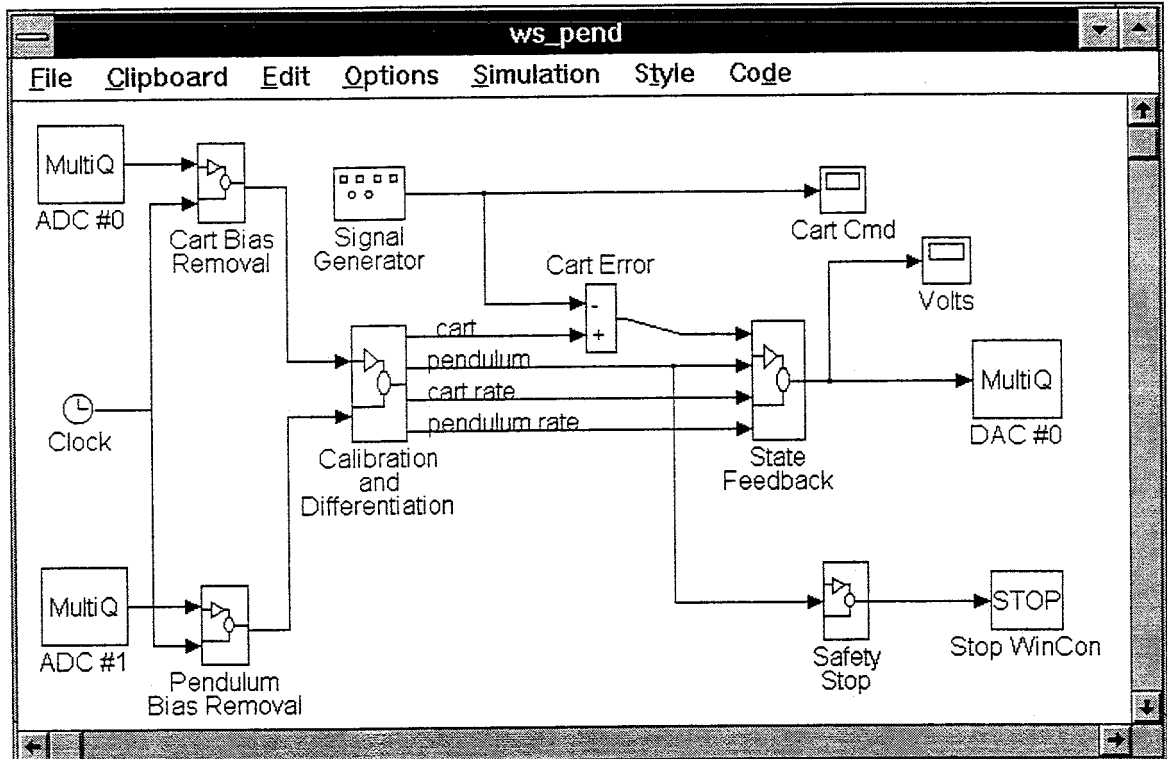

Figure 4.3.3 SIMULINK controller of Inverted pendulum
The diagram shown in Figure 4.3.3 will appear. The measurements are voltages from the sensors and are measured using A/D channel#0 and A/D channel #1. These are applied to bias removal blocks and then fed to a calibration and differentiation block. The output of this block results in the states $[x \quad \dot{x} \quad \alpha \quad \dot{\alpha}]$. A signal generator generates the commanded cart position which is subtracted from the actual cart position to obtain the cart position error e . These are then fed to the state feedback controller which computes the integral of the error and applies the desired gains k_1 to k_5 to obtain the applied voltage to the motor. This
- 3) Load `ws_pend` by typing `ws_pend` in the Matlab Command Window. This loads the SIMULINK drawing shown in Figure 4.3.3